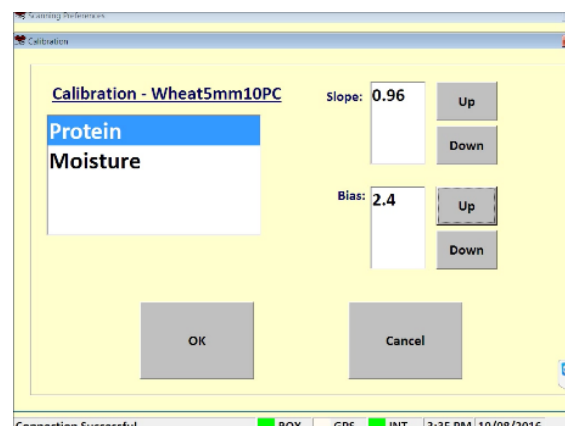

Figure 4.8. Slope and Bias Adjustment Window
- 2) Click on **Calibration Adjustment** menu. figure 4.8
- 2) Click on **Delete Calibration** figure 4.8